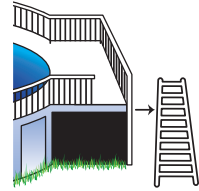

Figure 8b
- (a) **the ladder** to the pool or steps should be capable of being secured, locked, or removed to prevent access (figure 8b); or